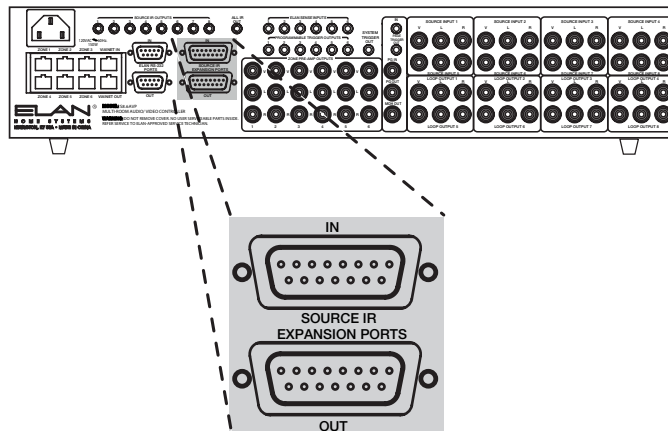

Figure 1-10. Source IR Expansion Ports
The Source IR Expansion Ports (3) are used to connect multiple S8.6 chassis (see **Figure 1-10**). These ports allow for sharing of IR between up to four units.